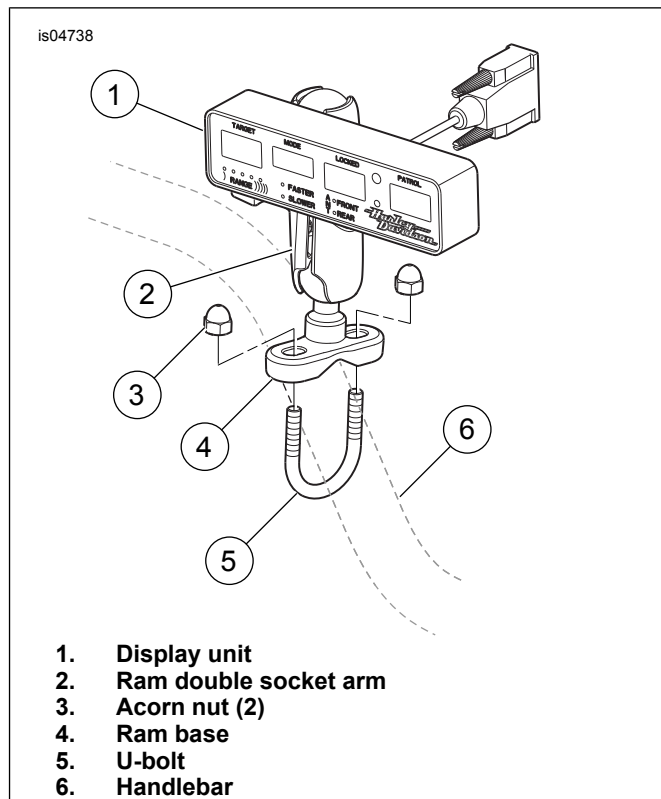

Figure 3. Radar Display Unit
- See Figure 3. Obtain the radar display unit assembly from the kit. Remove the two acorn nuts (3) and the U-bolt (5) from the ram base (4) and position the display unit (1) on the left side rise section of the handlebar (6).